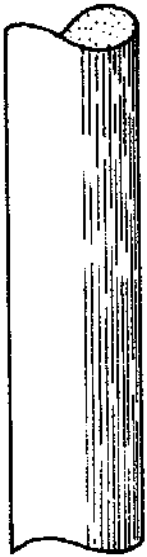

Fig. 1
- **CIRCULAR BARS:** Round, smooth bars are called circular bars and are available in diameters ranging from 5 mm to 28 mm (Fig. 1, next page). The four sizes most often used in Rural Building have diameters of 6 mm (1/4"), 10 mm (3/8"), 12 mm (1/2") and 18 mm (3/4").